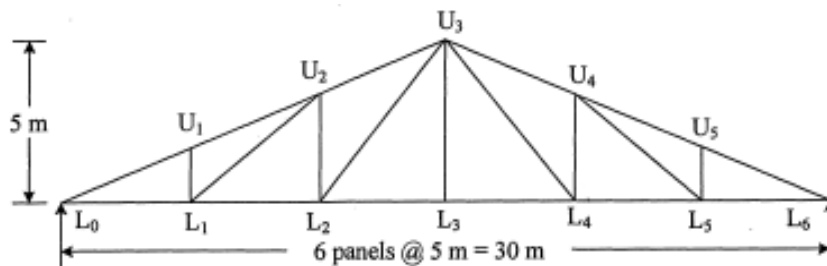

Fig. 9
9. Determine the design force in the members  $L_0U_1$ ,  $L_0L_1$  and  $U_1L_1$  of a pratt truss as shown in Fig. 9. The design wind pressure is  $1200 \text{ N/m}^2$ , the trusses are covered with A C sheet and the centre to centre spacing of truss is 6 m. 18